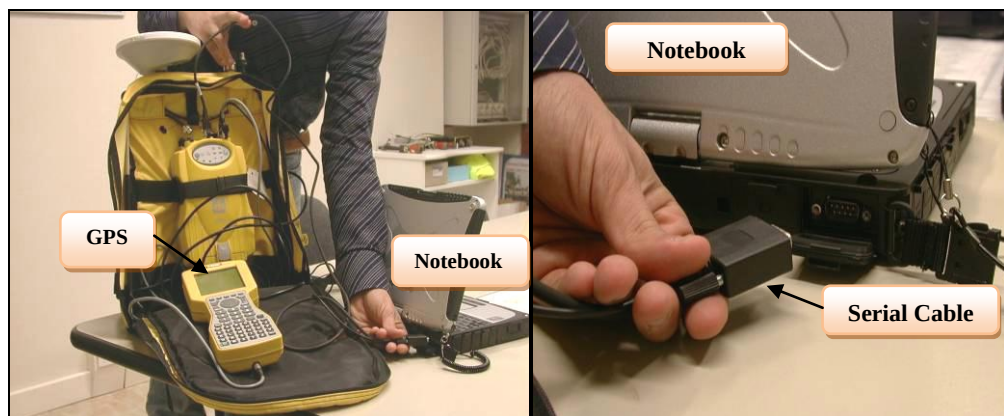

Fig. 6.1 – Connecting the GPS to the notebook computer
Step 1 Connect the GPS receiver to the **Panasonic CF-19 (or with some others** notebook with the serial port) using the serial cable shown in Fig. 6.1